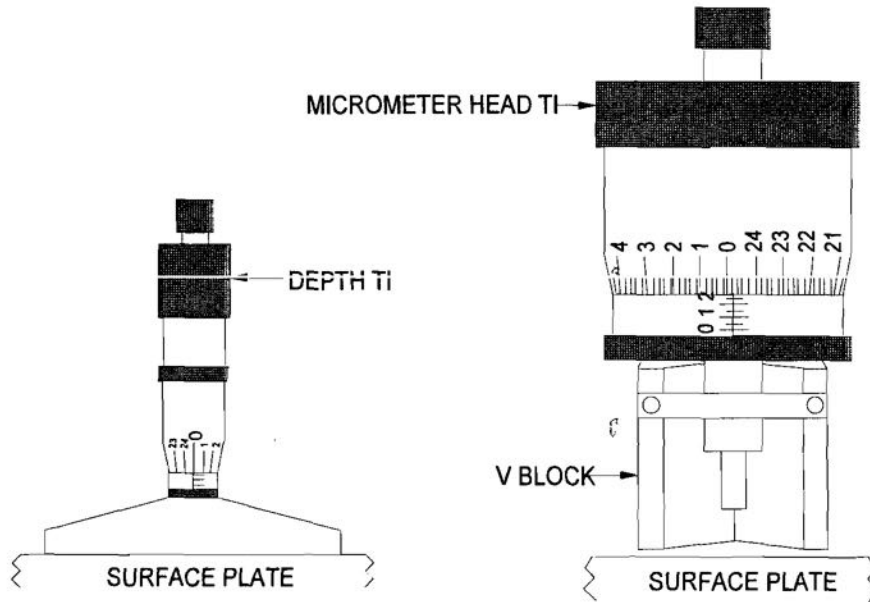

Figure 1.
4.3.1 Set the TI to indicate zero using the appropriate size Gage Block if required. For Depth TIs, set zero with the shortest available rod. For Micrometer Head TIs, mount the TI shank vertically in the V Block and set zero against the Surface Plate as shown in Figure 1.